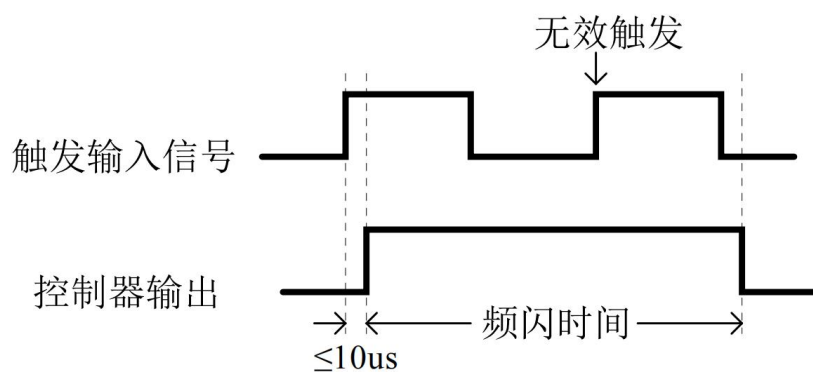

Figure 9 Strobe Mode Timing Diagram
**Strobe Mode:** When the controller is set to millisecond-level stroboscope or microsecond-level stroboscope, the light source turns on when the controller's trigger input signal is valid. Taking high-level validity as an example, the timing relationship is shown in Figure 9: